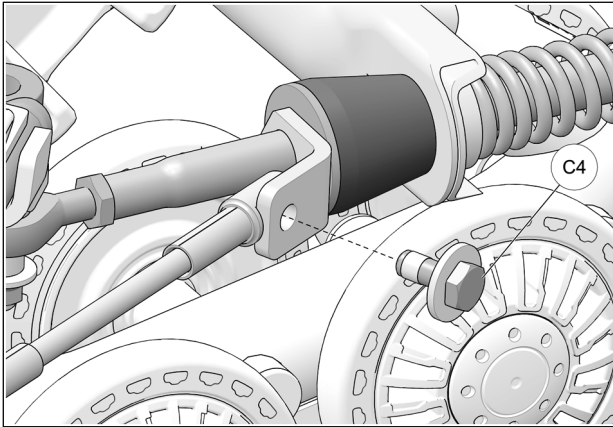

Fig. 22
- Reverse steering wheel a little to be able to bolt support plate and cable together. Tighten provided bolt (C4) to 35 N•m [24 lb•ft]. See Fig. 22. Repeat steps on right side.